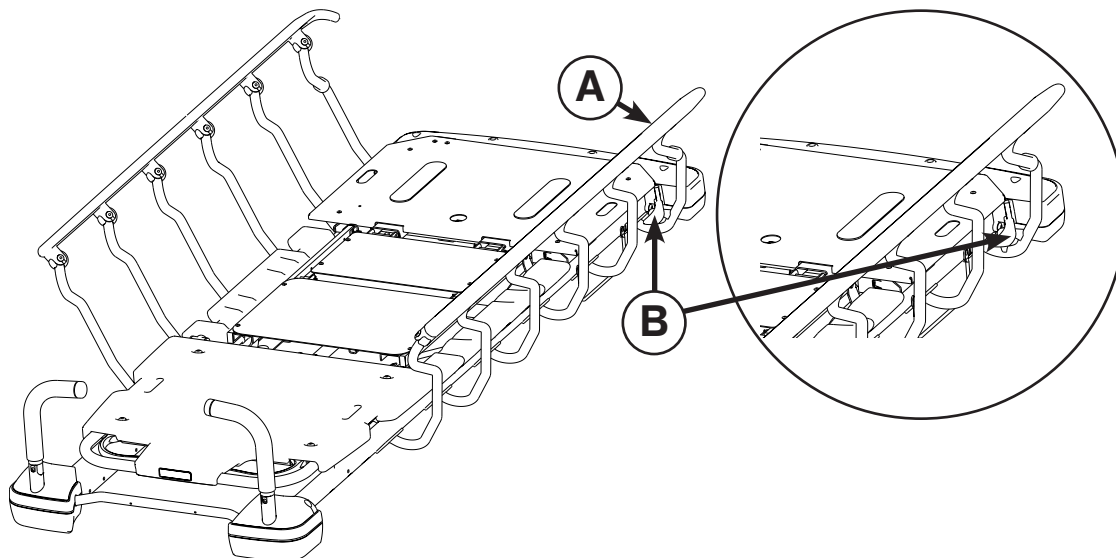

Figure 5: Siderails
To raise the siderails, pull up on the siderail (A) and raise it to the highest position until the latch (B) engages as shown in Figure 5.
To lower the siderails, pull up on the latch (B) and guide the siderail to the lowest position as shown in Figure 5. The latches (B) are colored yellow for easy identification.